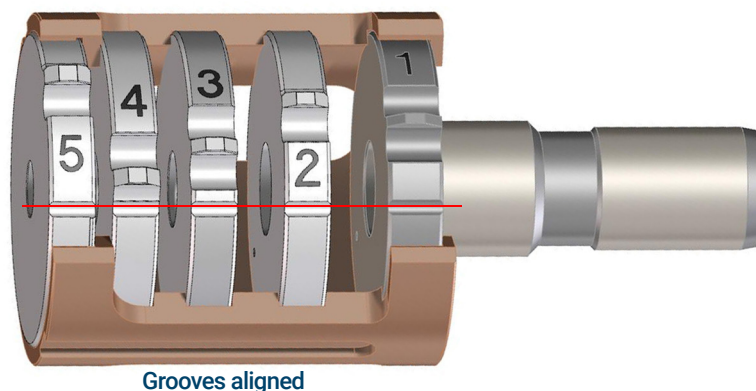

Figure 56. Assembled EI HES lens stack
- 1 Assemble the five lenses inside the lens insulator. (See Figure 56.) The lens number is engraved into the outer circumference of each lens.